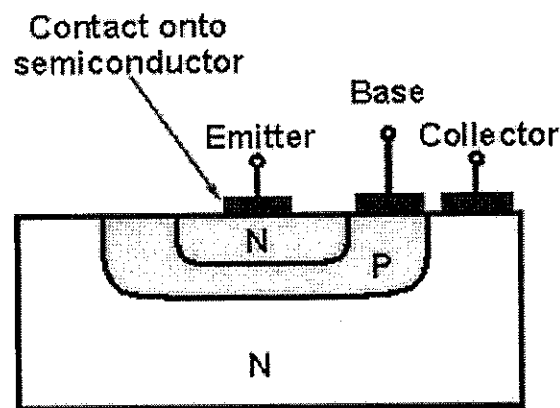

Figure 3: Schematic cross-section of a planar N-P N bipolar junction transistor (BJT).
The cross-sectional view of a planar N-P-N bipolar junction transistor (BJT) on N-type silicon substrate is given in Figure 3.
- (i) Design a fabrication process for the BJT depicted in Figure 3 by providing neat sketch and description of your fabrication processing flow. [14 marks]